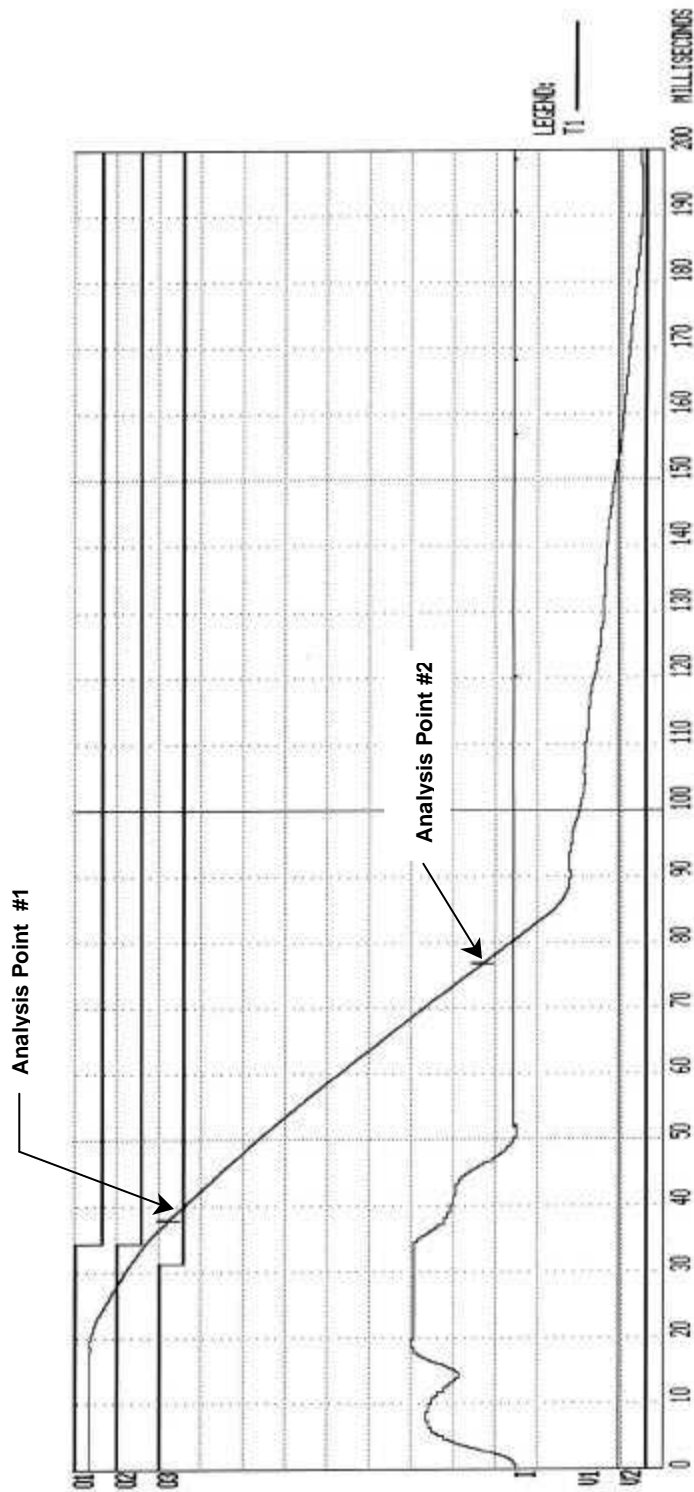

Figure 14.0 Expansion Graph From 0 to 200ms From the Thermal Printer
2. Selecting "PLOT 0-200 MS" will automatically plot the timing chart from 0 to 200 milliseconds in the expansion mode with 10 ms timing markers, which can be seen in Figure 14.0.